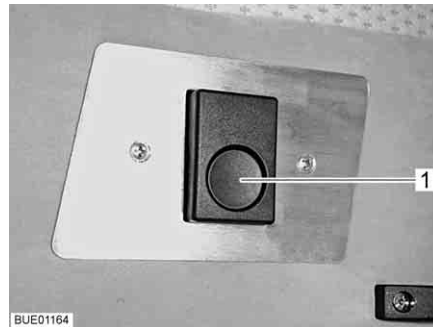
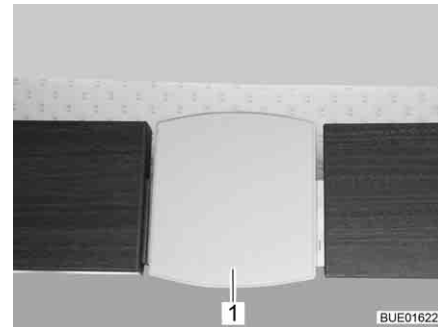

Fig. 123 Release point (Aviano)
Fig. 124 Release point (Viseo)
- Press the release knob (Fig. 123, 1) or pull out the release plate (Fig. 124, 1) at the bottom. The lock is released.